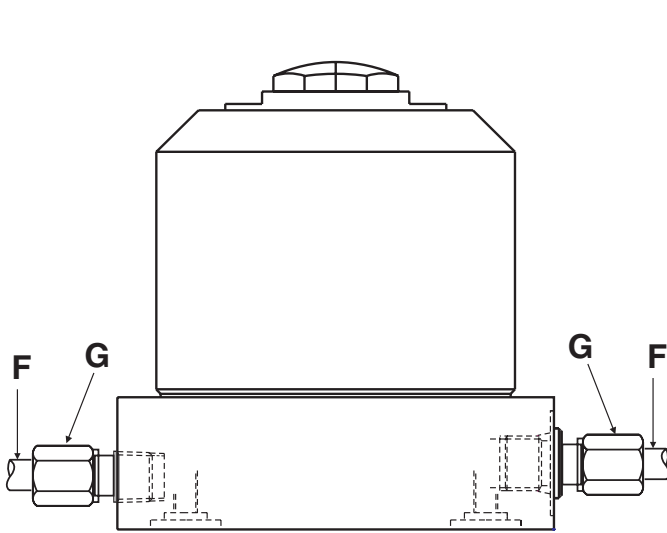
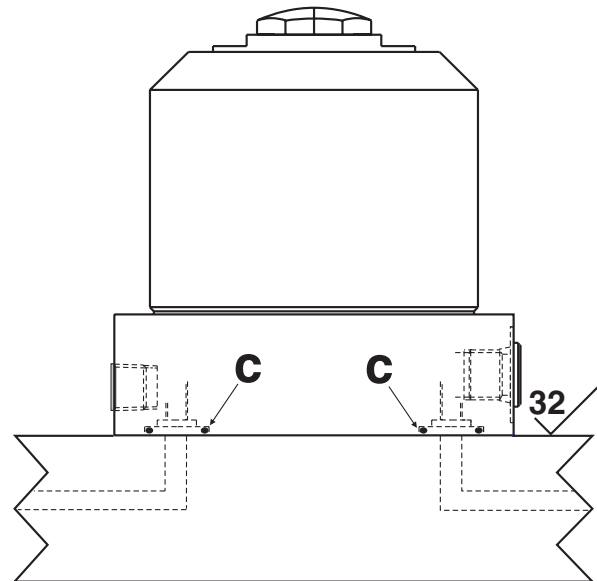

Figure 4 - "Air Purge" / "Air Spring" Work Support using Side Breather Port
Figure 5 - "Air Purge" / "Air Spring" Work Support using Manifold Breather Port
1. Connect an air supply line (item F) to the side breather port (see figure 4) or through manifold breather port (see figure 5). If connecting to the side breather port, the breather fitting must first be removed. If connecting to the manifold breather port, remove the screw plug and copper gasket from the port, lightly lubricate the provided O-Ring, and install the O-Ring in the counterbore around the port.
3. Connect an air supply line (item F) to the side breather port (see figure 4) or through the manifold breather port (see figure 5). If connecting to the side breather port, the breather fitting must first be removed. If connecting to the manifold breather port, remove the screw plug and copper gasket from the port, lightly lubricate the provided O-Ring, and install the O-Ring in the counterbore around the port.